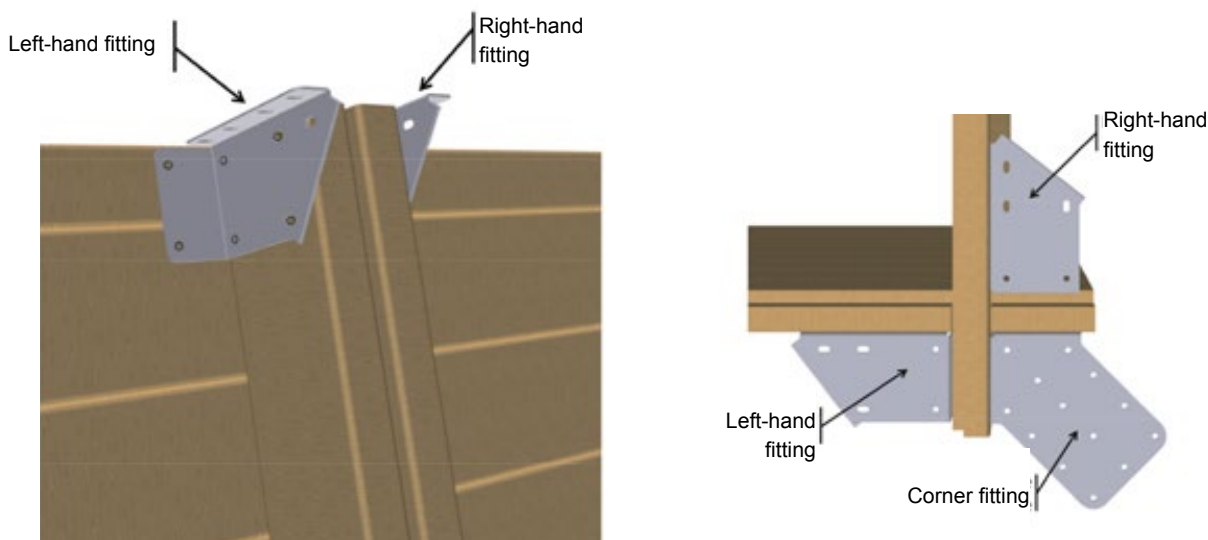

Figure 18 – Mounting the fittings on top of the supporting brace Figure 19 – Mounting the fitting in the corners
- On top of each of the supporting braces, place a 'right-hand' fitting and a 'left-hand' fitting from the 'Fastening elements' kit as shown in *Figure 18*. Use 6 hinge screws 6 × 20 in A2 SS (bag G) per fitting, that is a total of 48 screws.